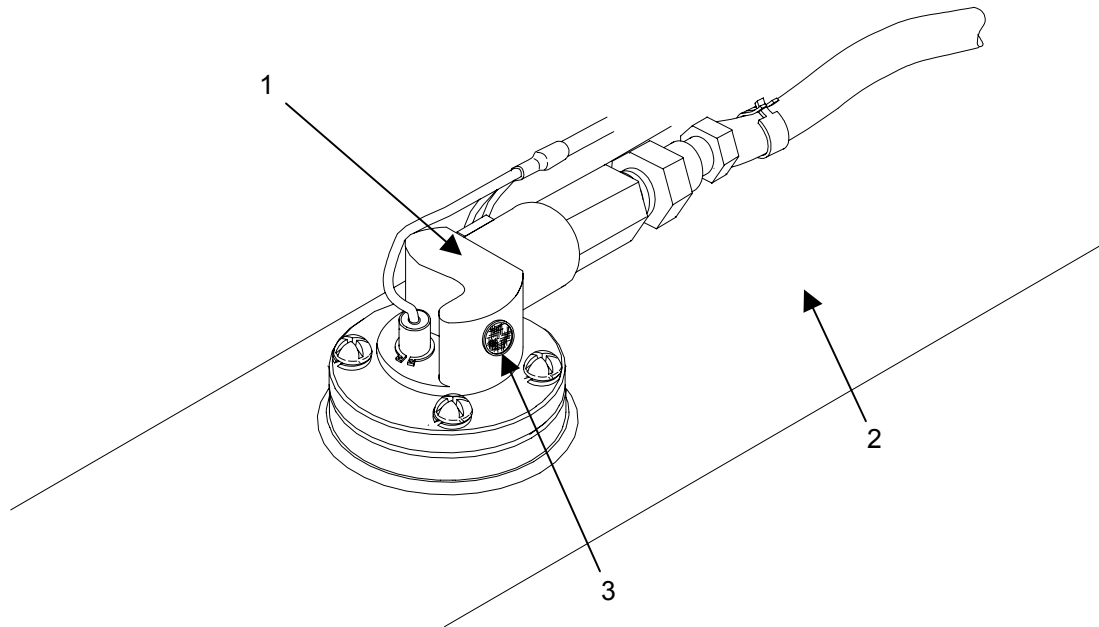

Figure 1. Clean the Vent Valve Assembly Orifice
1. Locate the Air Vent Assembly (**figure 1, item 1**) on the top surface of the fuel tank (**figure 1, item 2**). The Air Vent Orifice (**figure 1, item 3**) is the $\frac{3}{8}$ -inch diameter hole located on the side of the assembly facing the rear of the MBU.
2. Ensure that the orifice (**figure 1, item 3**) is clear of any dust or debris as this would prevent venting of the fuel tank and affect fuel flow. Use a small cleaning brush to clean the debris out of the orifice. **DO NOT** use any tool or object that would push any debris further into the orifice.